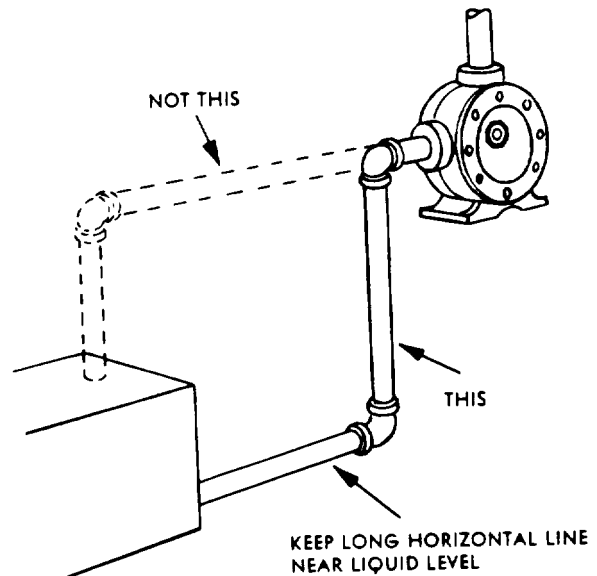

FIGURE 11
- For a suction line with a long horizontal run keep the horizontal portion below the liquid level if possible. This keeps the pipe full so the pump does not have to remove so much air when starting; this is most helpful when there is no foot valve. See Figure 11.